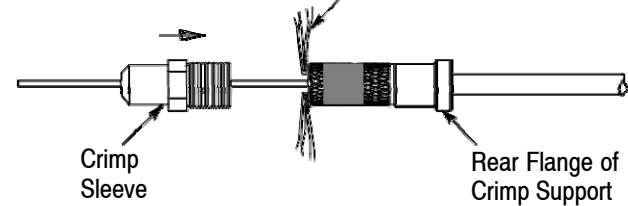

Figure 4
1. Apply a continuous bead of the instant adhesive around the cable jacket between 4 and 5 mm from the stripped end of the jacket. See Figure 4, Detail A.
2. Rotate and slide the crimp support (large diameter end first) over the fiber and strength members and onto the jacket until it bottoms (rotating the crimp support between the thumb and index finger will help feed the strength members through the crimp support). See Figure 4, Detail B.
3. Apply a band of the instant adhesive around the knurled portion of the crimp support. Make sure that the band is continuous around the entire circumference. See Figure 4, Detail C.
4. Slide the piece of cable jacket (stripped from the cable in Paragraph 5.1) over the buffered fiber and into the center of the strength members until it bottoms against the crimp support and the strength members are flared away from the fiber; then remove the piece of cable jacket. See Figure 4, Details D and E.
5. Slide the crimp sleeve over the fiber and piece of cable jacket so that the strength members fold back evenly around and over the crimp support and until it bottoms on the rear flange of the crimp support. **This step should be performed quickly before the adhesive begins to harden.** See Figure 4, Detail E.